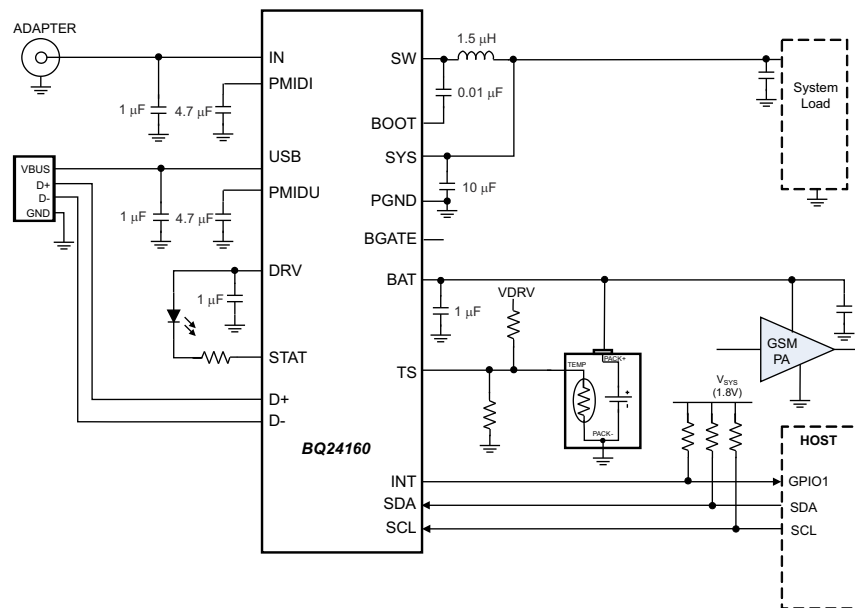
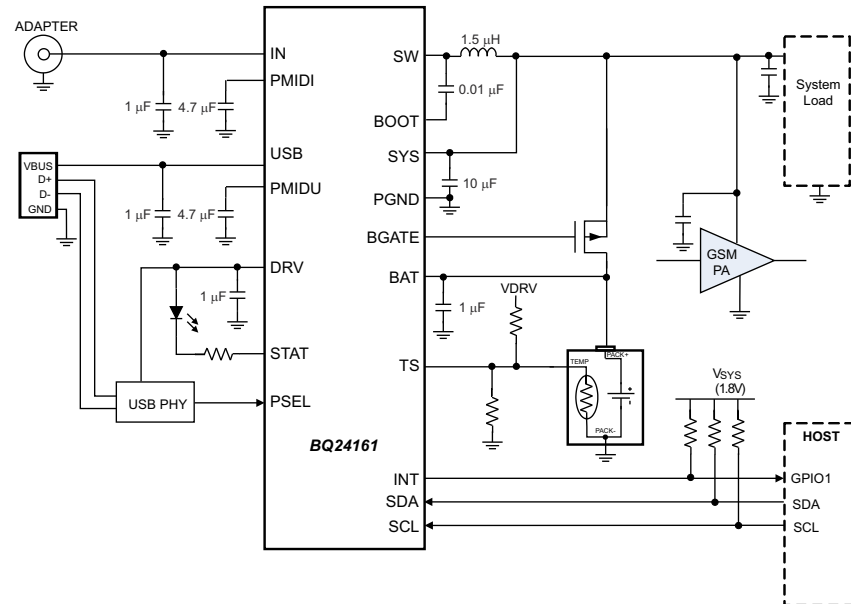

Figure 9-1. BQ24160, Shown with no External Discharge FET, PA Connected to Battery
Figure 9-2. BQ24161, Shown with External Discharge FET, PA Connected to System for GSM Call Support with a Deeply Discharged or No Battery
A typical application circuit using the BQ24160 with a smartphone's GSM power amplifier (PA) powered directly from the battery is shown in Figure 9-1. A typical application circuit using the BQ24161 with a smartphone's GSM PA powered from the SYS rail, to allow for calls even with a deeply discharged battery, is shown in Figure 9-2. Each circuit shows the minimum capacitance requirements for each pin and typical recommended inductance value of 1.5 μ H. The TS resistor divider for configuring the TS function for the battery's specific thermistor can be computed from equations Equation 1 and Equation 2. The resistor on STAT is sized per the LED current requirements. All other configuration settings for VINDPM, input current limit, charge current and charge voltage are made in EEPROM registers using I²C commands. Options for sizing the inductor outside the 1.5 μ H recommended value and additional SYS pin capacitance are explained in the next section.